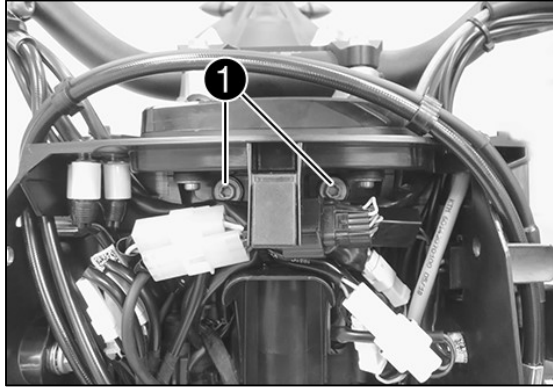

Fig. 1
3. Remove screws (1) and pull the instrument support to the front (Fig.1).